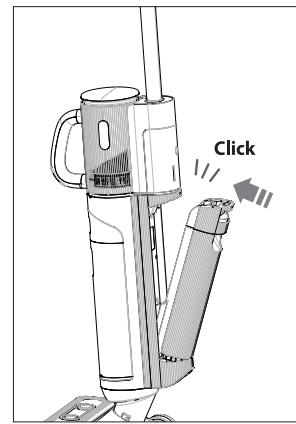

Fig. 8 – Inserting the water tank
- ▶ Insert the fresh water tank into the recess on the back of the appliance at a slight angle and press on the fresh water tank until you hear it click into place and it is seated securely (see Fig. 8).